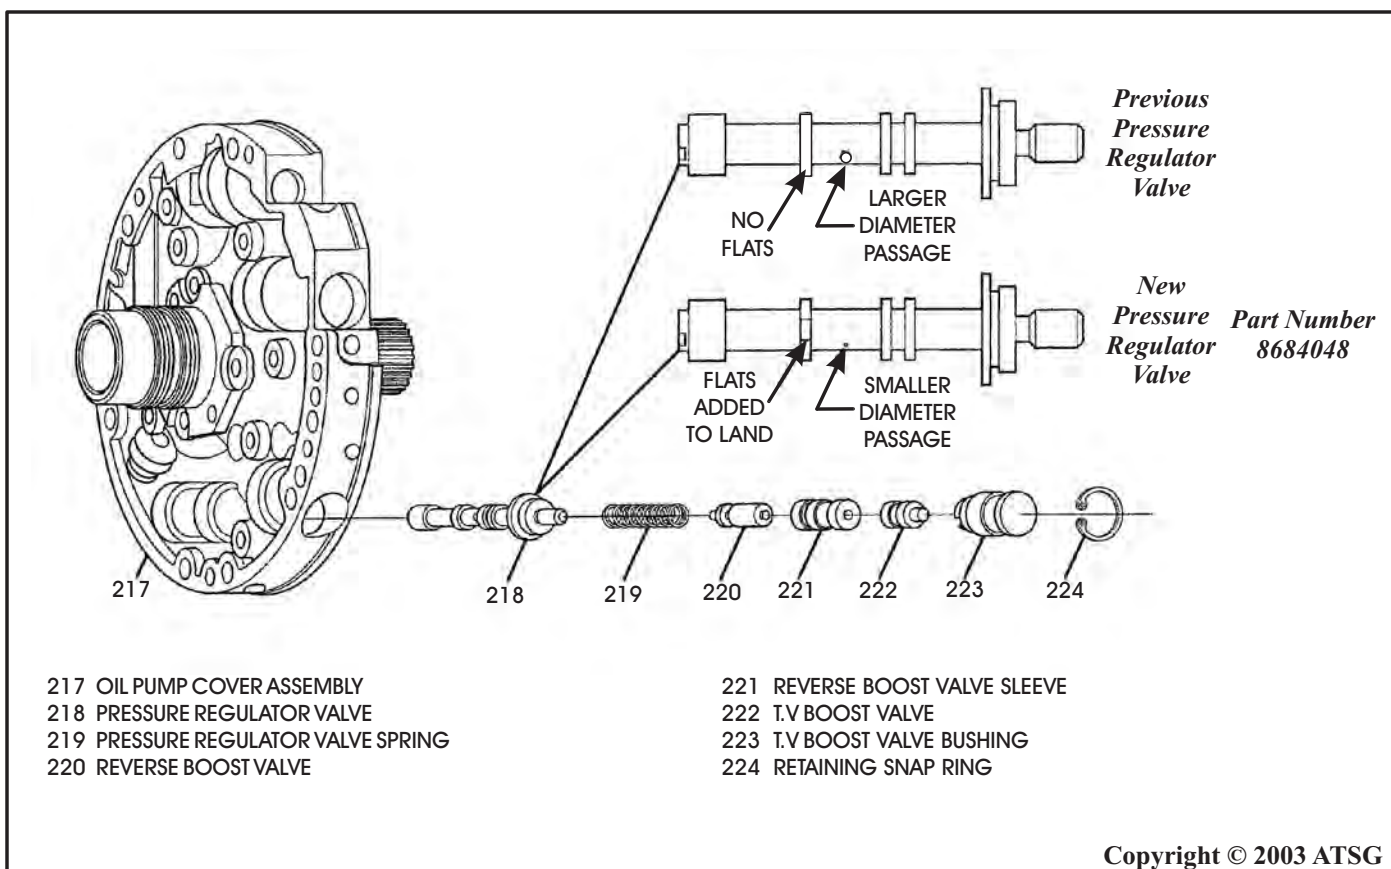

Figure 76
CHANGE: Beginning at the start of production for 1993 models, all 700-R4 transmissions were built with a new Pressure Regulator Valve with "Flats" on the third land, as shown in Figure 76.
- (1) PRESSURE REGULATOR VALVE - Now has "Flats" ground on the third land of the valve, as shown in Figure 76.